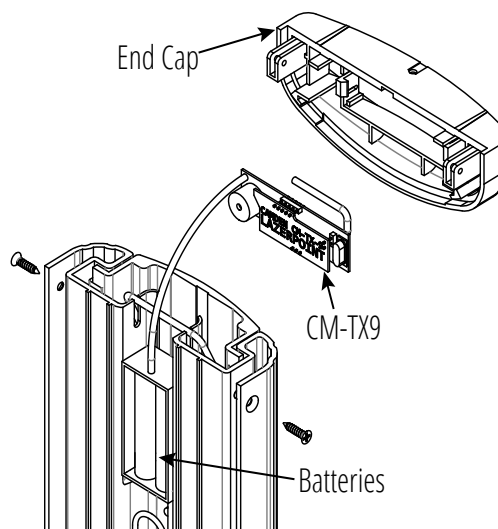

Figure 3.2 Lazerpoint RF
7. If using Lazerpoint RF: The cap includes a snap-in compartment for our TX-9 transmitter. Place transmitter in the cap, with the wires hanging down and to the front of the cap. Using the supplied wire nuts, connect the two activating wires to the Column™ Switch lead wires. Slide the battery and the extra wiring into the center (rear) channel provided. Do not slide all of the wire into the channel, so that the cap can hang off to one side while you perform the next step. (Figure 3.2)